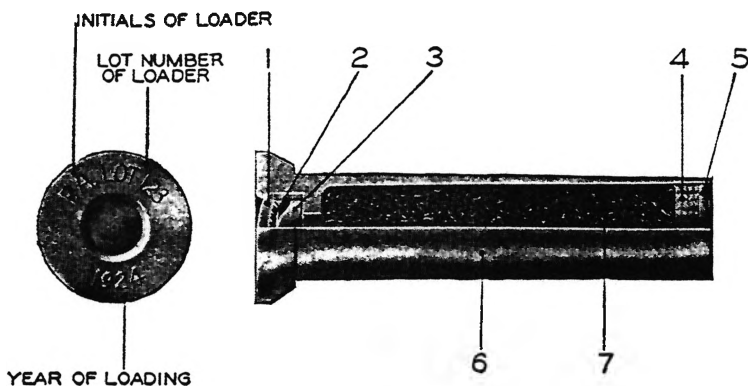

FIG. 15.—21-grain percussion primer, Mk. II-A
18. 21-grain percussion primer, Mk. II-A.—*a. Type.*—The 155-mm. gun uses a percussion primer; that is, the gun is fired by the primer being struck by the point of the firing pin of the gun in a manner similar to the way that a rifle cartridge is fired. The primer is called a “21-grain percussion primer (Mk. II-A)” because it contains 21 grains of black powder. Figure 15 shows the 21-grain percussion primer, Mk. II-A.
*c. Marking.*—Identification marks are stamped on the bottom of the primer case as shown in Figure 15.